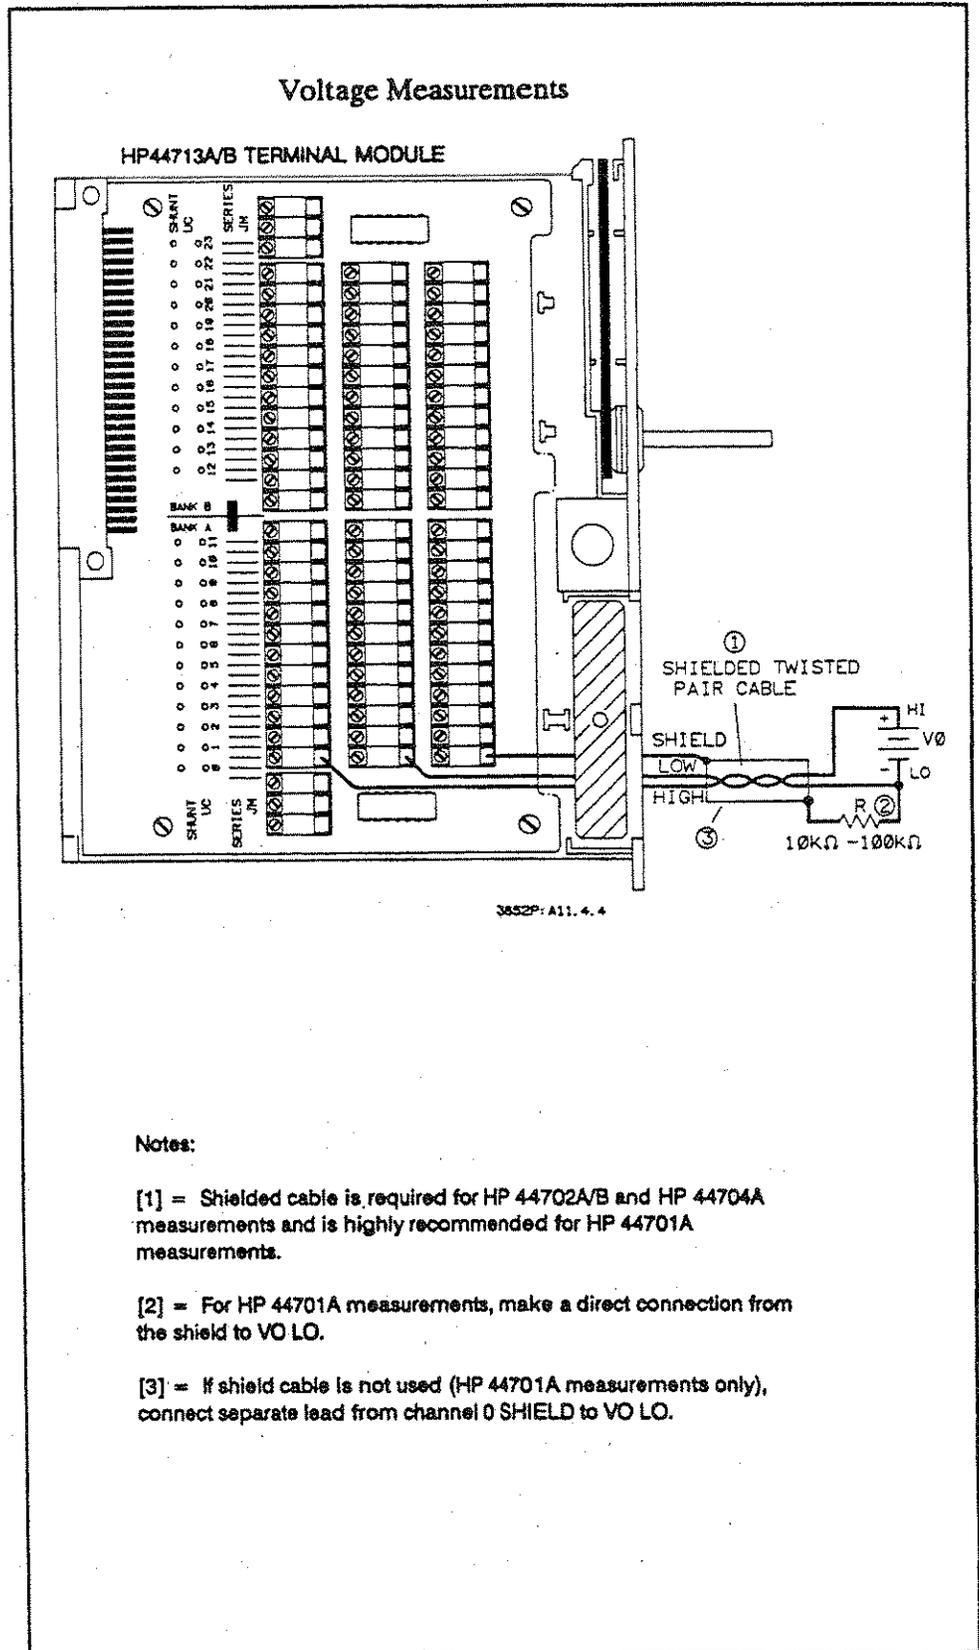

Figure 4-4. HP 44713A/B Voltage Connections
Figure 4-4 shows typical voltage measurement connections to channel 0 on the terminal module. Note that shielded cable is required for measurements with the HP 44702A/B and HP 44704A voltmeters and is highly recommended for measurements with the HP 44701A voltmeter. For the HP 44702A/B or HP 44704A voltmeter, connect an external resistor (R) between V0 LO and the shield, as shown in Figure 4-4.